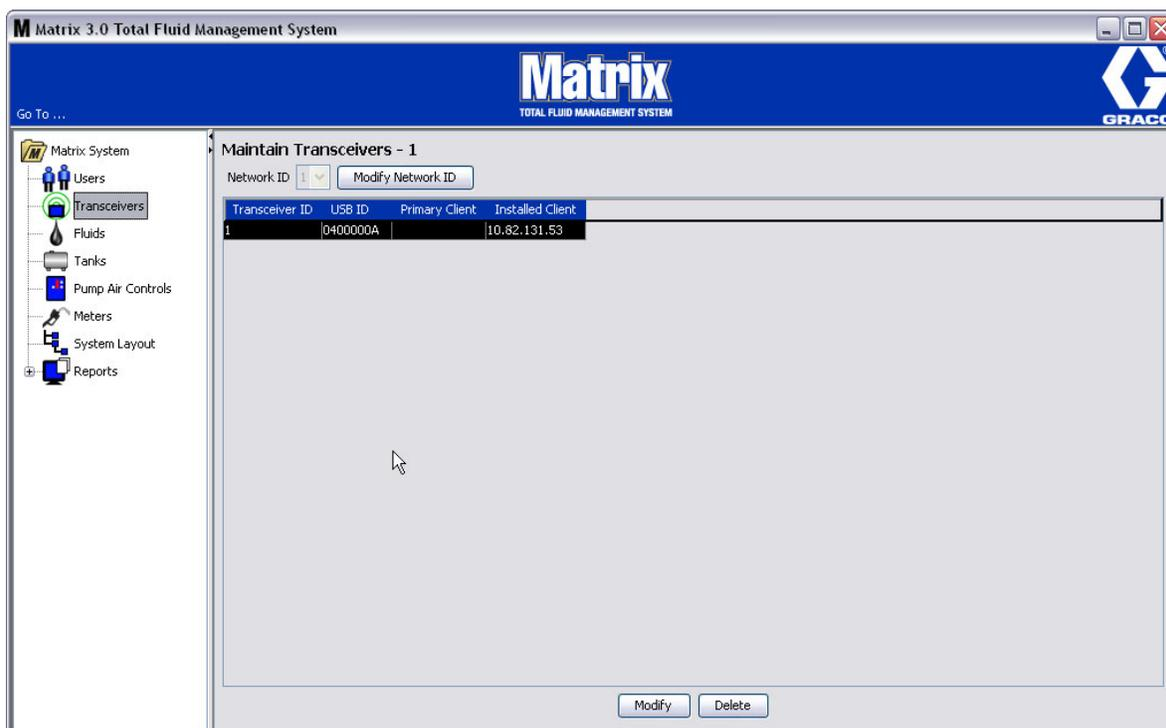
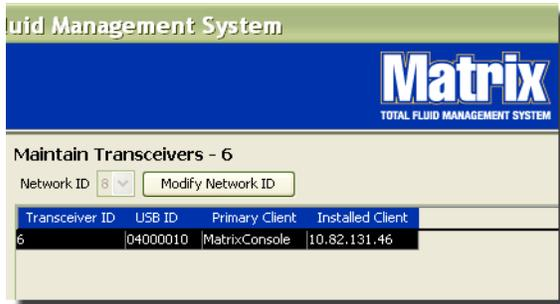

FIG. 58
FIG. 59
The Matrix 3 Basic software Transceiver screen shown in FIG. 58 is used to:
2. To set the Network ID, select the Modify Network ID button shown in FIG. 59.
4. The Network ID number selected now displays on the top of the Transceiver screen in the Network ID field as shown in FIG. 58 and FIG. 59.